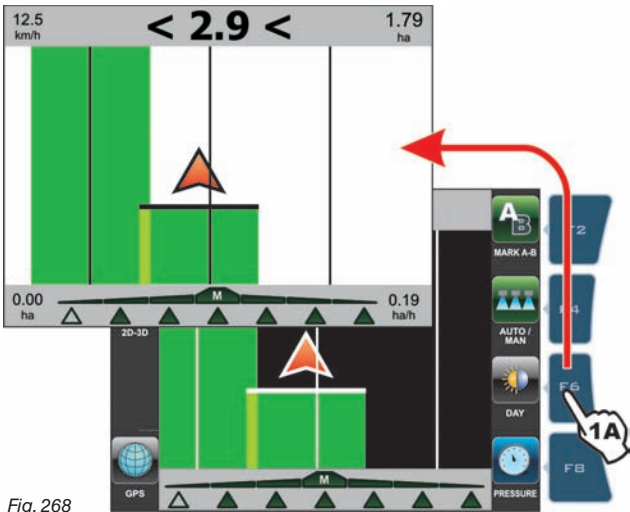

Fig. 268
13.2.5 Toggle from day display driving mode to night one and vice versa (figures 268 - 269)
1A Night display mode is active. Press F6 to shift to Day mode (Fig. 268).